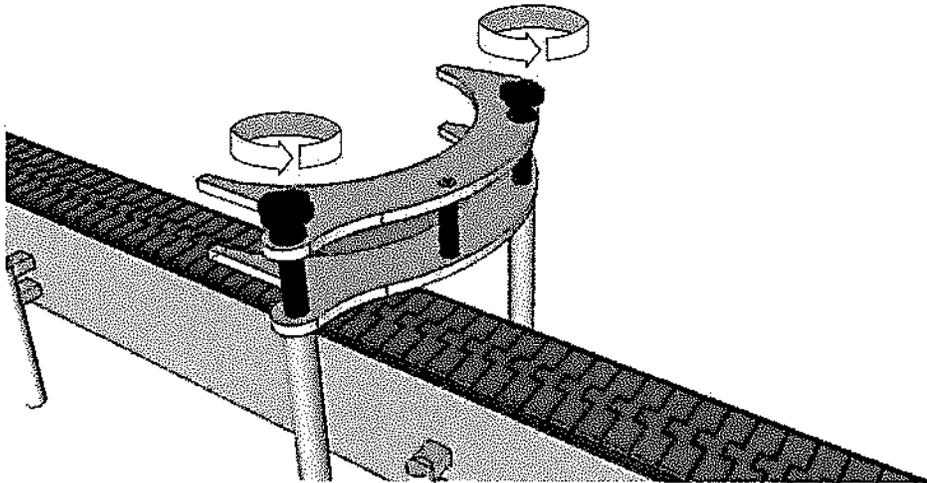

fig.10
- Loosen the two lock knobs, turning them counter-clockwise (fig.10):